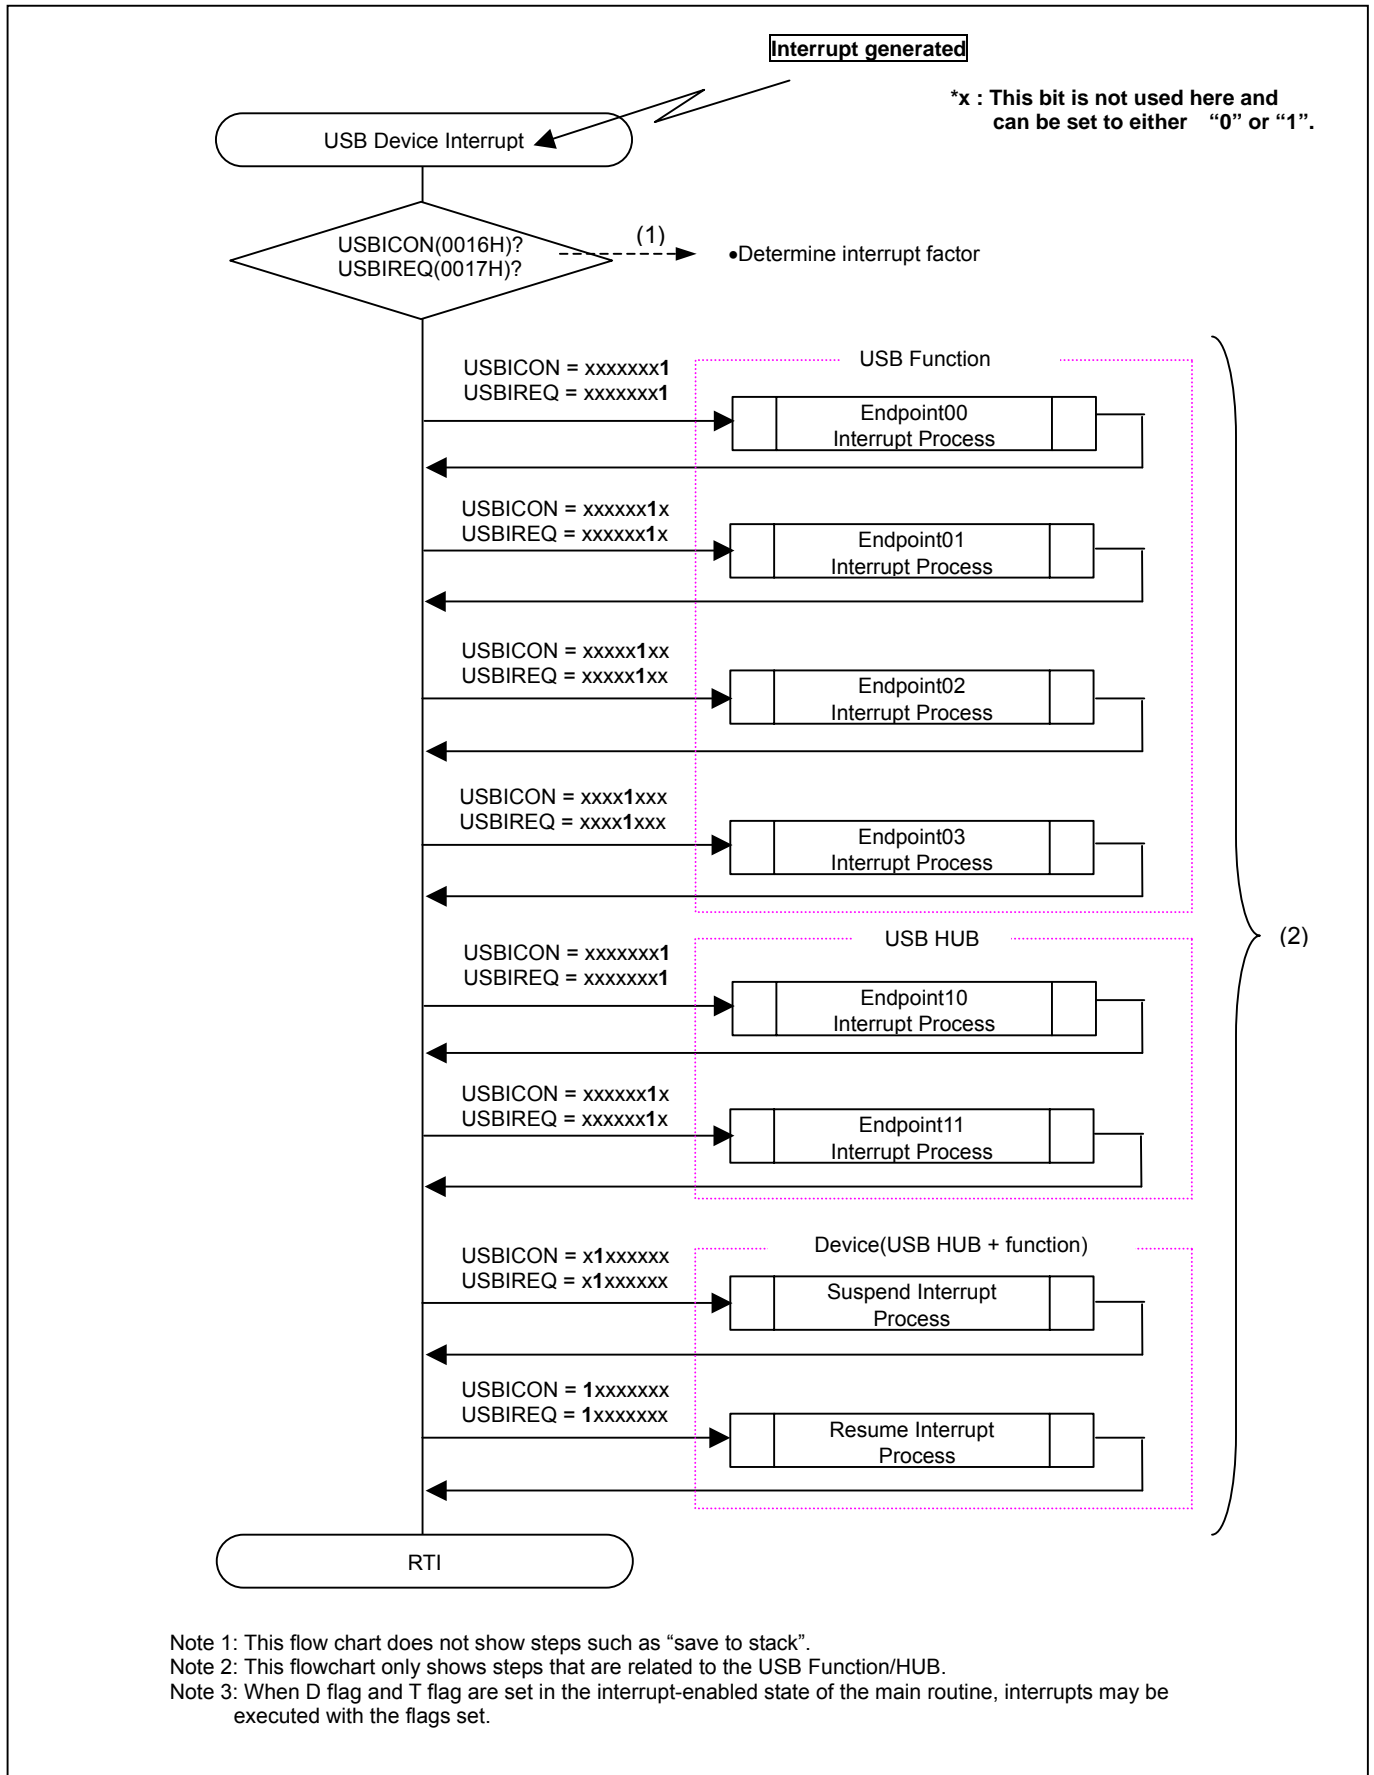

Figure 2.3 Example of USB Bus Device Interrupt Routine
Table 2.4 lists the USB device interrupt registers and Figure 2.3 shows an example of the USB device interrupt routine.
The following are detailed descriptions of the steps shown in [Figure 2.3 Example of Bus Reset Interrupt Routine].
(1) Interrupt Factor Determination Method #1
The bus device interrupt is determined by the AND condition of the enable bit state of USBICON (USB Interrupt Factor Enable Register) and the factor bit state of USBIREQ (USB Interrupt Factor Register). In other words, when both bits are “1”, the next step in the process (the Chapter indicated by (2) in Figure 2.3) is valid.
(2) Interrupt Factor Determination Method #2